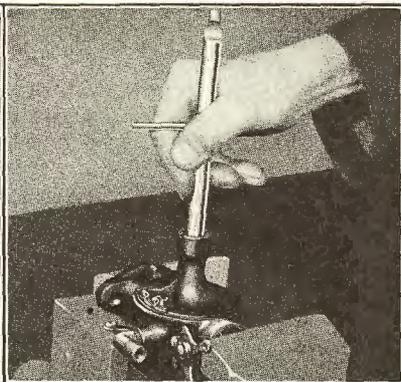

Fig. 431
- 879 Run out spray nozzle and gasket from mixer chamber (See Fig. 431).